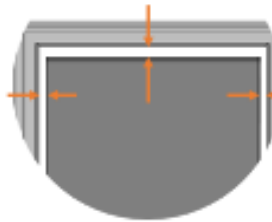

Fig. 1a
- Locate the gaps around the rocker plate (refer to Figure 1a).
- Part 'B' gets installed on the vertical opening visible in figure 1a.